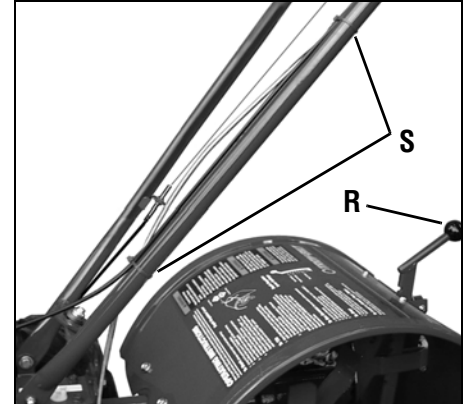

Figure 2-13: Attach wheel gear cable and reverse clutch cable with cable ties (S).
1. With the tiller on level ground, pull the Depth Regulator Lever (R, Figure 2-13) back and then slide it to the second notch from the top. **NOTE:** If the lever does not move, lift the tine hood flap and look for a plastic tie securing the lever in place. Cut and remove the tie.
3. Use a small board or rubber mallet to tap the Wheel Gear Lever knob securely onto the lever (R, Figure 2-13).
4. Secure the wheel gear cable and the reverse clutch control cable to the left-side handlebar with two plastic ties (S, Figure 2-13) located about two feet apart. Snip off any excess tie length with scissors.